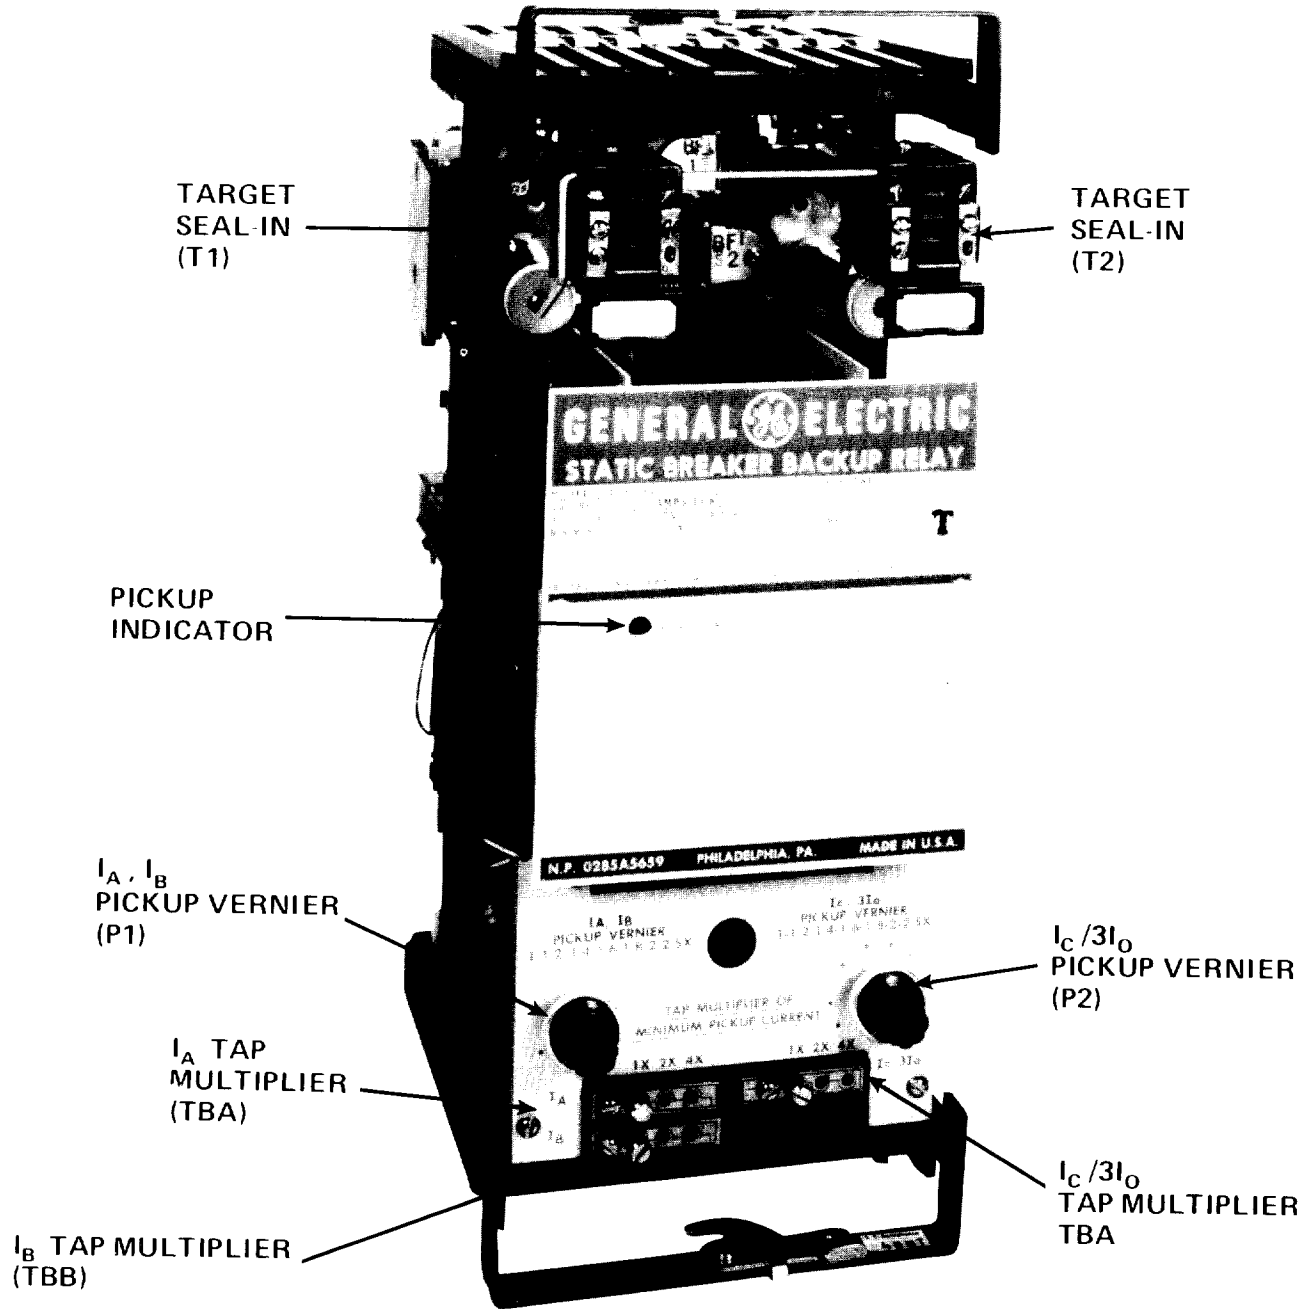

Fig. 1 (8043672) SBC31 Relay Removed from Case (Front View)
The timer and its associated adjustment potentiometer are located on the "A" card (left card, see Fig. 1). Set up the test circuit shown on Fig. 15 and perform the following instructions:
- Fig. 1 SBC31 Relay Removed from Case (Front View)